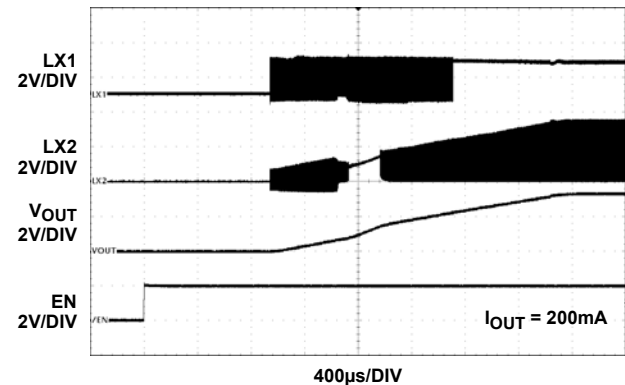

FIGURE 2. ISL91127IR START-UP WITH $V_{IN} = 2\text{V}$ AND $V_{OUT} = 3.3\text{V}$
Refer to the following Quick Setup Guide to configure and power-up the board for proper operation. During the power-on process, the expected waveforms are shown in Figures 2 and 3.
7. Monitor the output voltage start-up sequence on the scope. The waveforms will look similar to that shown in Figures 2 and 3.